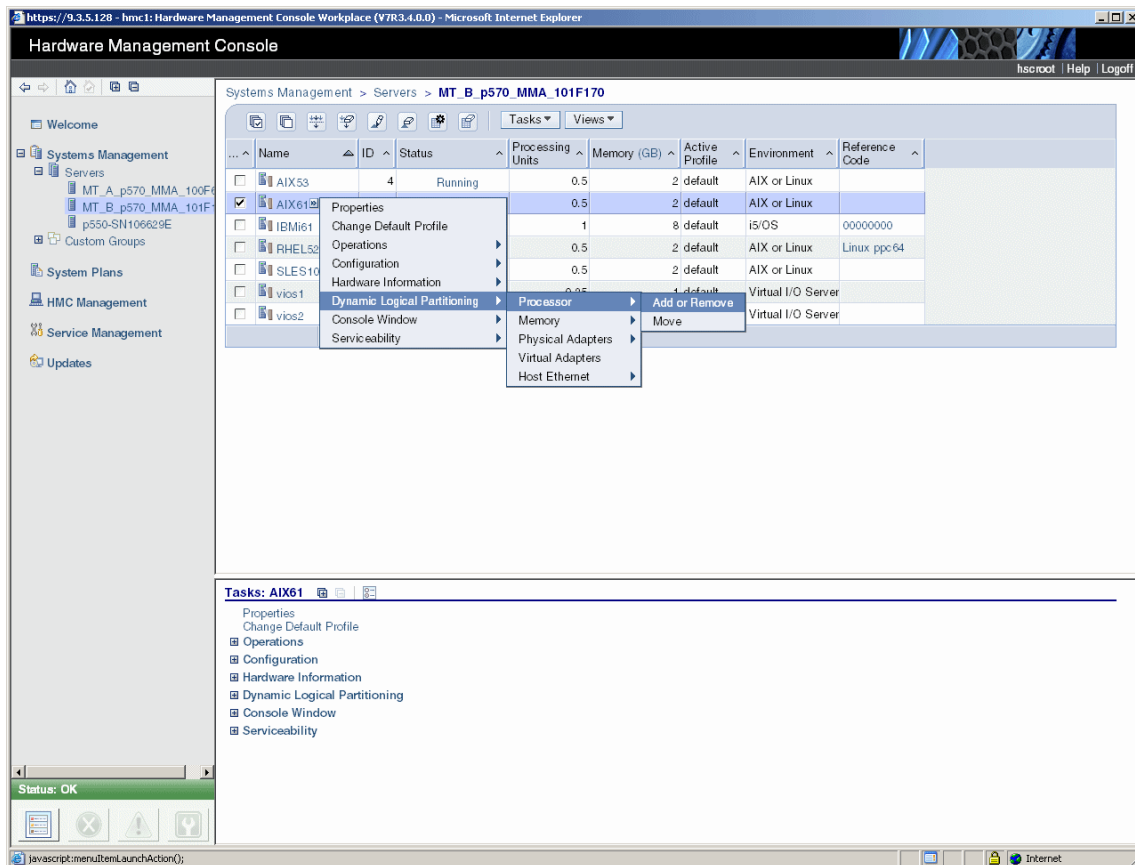

Figure 12-1 Add or remove processor operation
1. Select the logical partition where you want to initiate a dynamic LPAR operation, then select **Dynamic Logical Partitioning** → **Processor** → **Add or Remove** as shown in Figure 12-1.